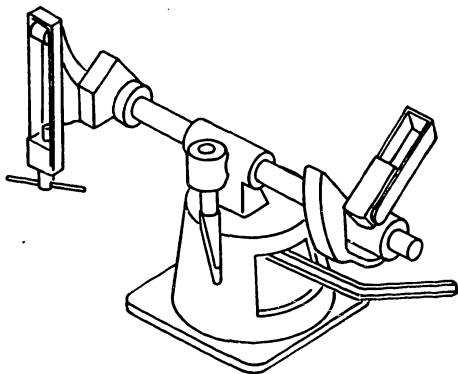

Fig. 58 Universal vise and brackets
3. Mount the bracket (KDEP 2963) on the universal vise (KDEP 2919). Attach the bracket (1 685 720 017) to the bracket (KDEP 2963) using the two bolts. (Fig. 58)